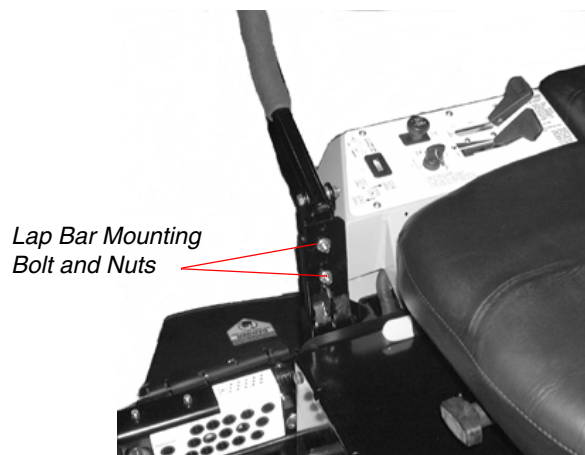

Figure 11
- a. Remove the nuts from the lap bar mounting bolts (see Fig. 11).